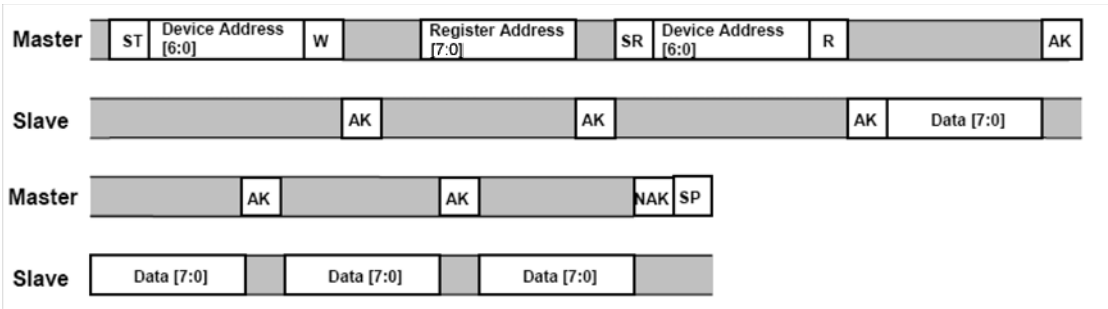

Figure 8. Multiple Bytes Read - The Master is reading multiple sequential registers from the MMA7455L
The MMA7455L automatically increments the received register address commands after a read command is received. Therefore, after following the steps of a single byte read, multiple bytes of data can be read from sequential registers after each MMA7455L acknowledgment (AK) is received until a NACK is received from the Master followed by a stop condition (SP) signalling an end of transmission. See Figure 8.